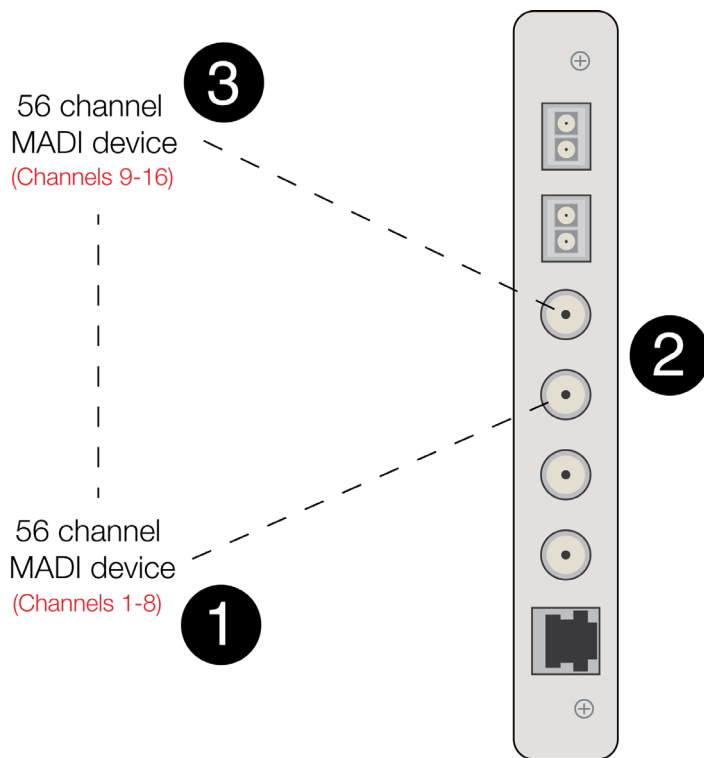

FIGURE 3. MADI Merge Example
The example shown in Figure 3 shows two (2) MADI devices sending 8 channels each to one (1) MADI-2 Card. The audio path for the channels is as follows: